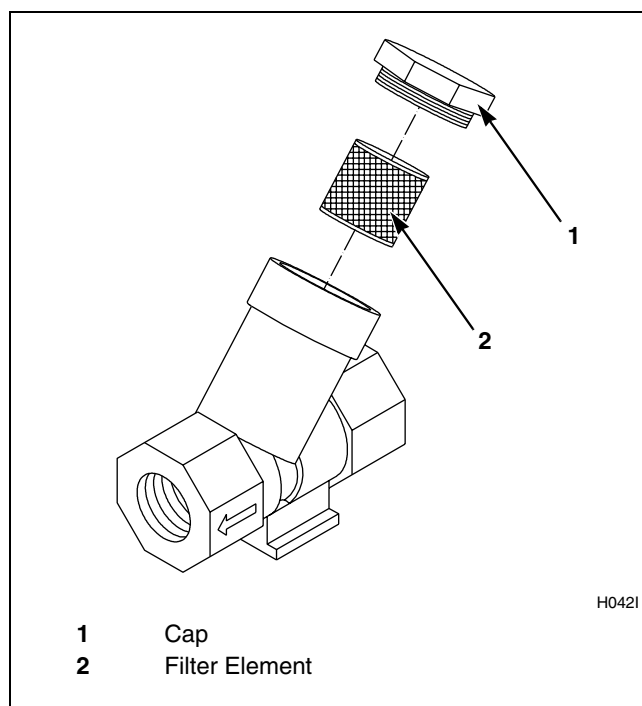

Figure 13
5. Clean customer-supplied steam filter, where applicable. Refer to *Figure 13*.